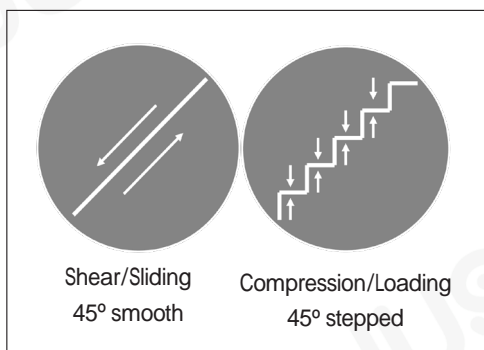

Figure 1
1. Stepped design transmits the vertical forces created by the tapered implant to the host bone in compression rather than in shear. (Figure 1) The stepped design increases 13% proximal coating area that provides a large contact area, at the same time, increasing the proximal area.